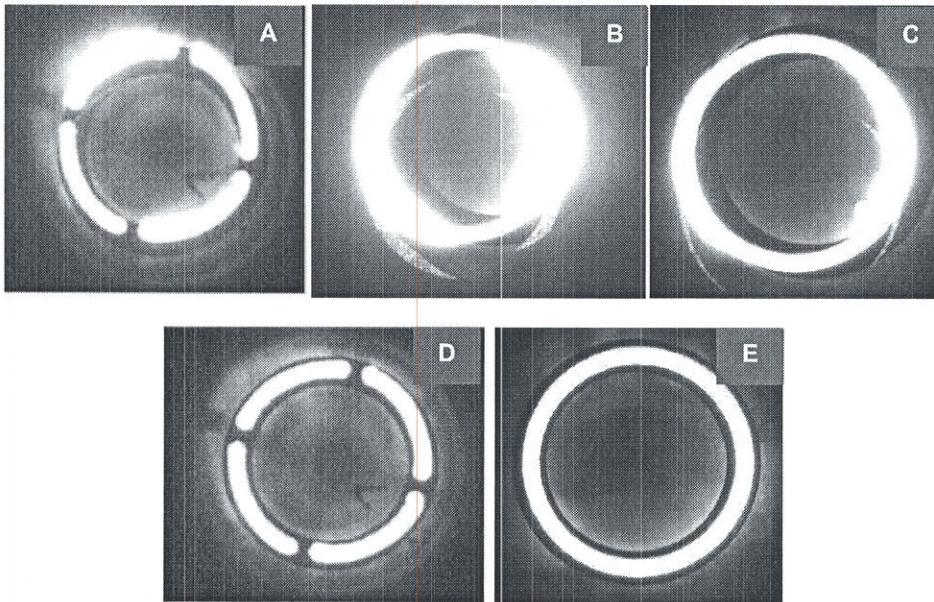

Figure 7-3. Examples of Unaligned Phase Rings (A, B, C); Aligned Phase Rings (D&E)
8. Turn the phase annulus adjusters until the bright arcs are exactly superimposed on the dark phase ring (see Figure 7-3).